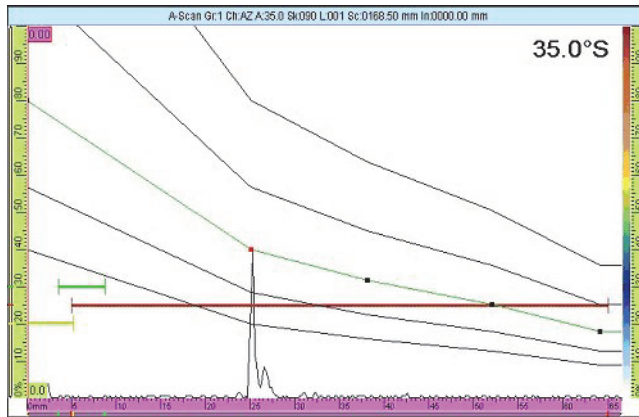

Figure 6-7 The DAC curve on the next signal
- b) Set the value of the **Amplitude** parameter button in order to move the DAC curve on the reflector signal peak amplitude (see Figure 6-7 on page 164).